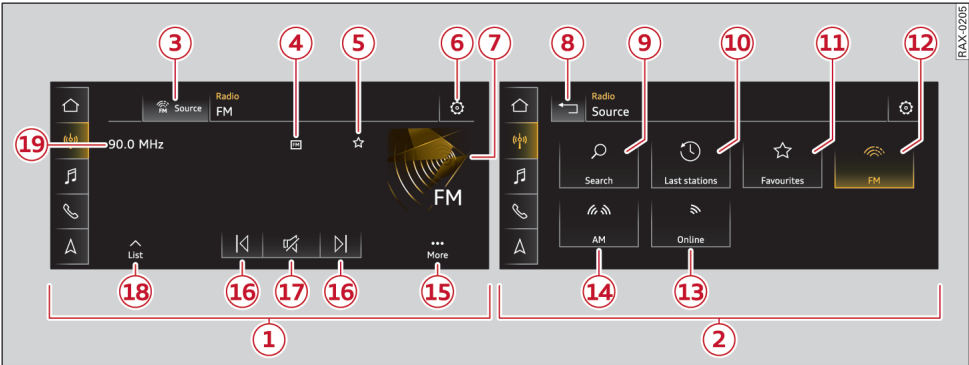

Fig. 145 Centre display: Radio functions, playback view (left-side); sources (right-side)
- In the playback view, press ☆ ⇒ *page 208, Fig. 145*.